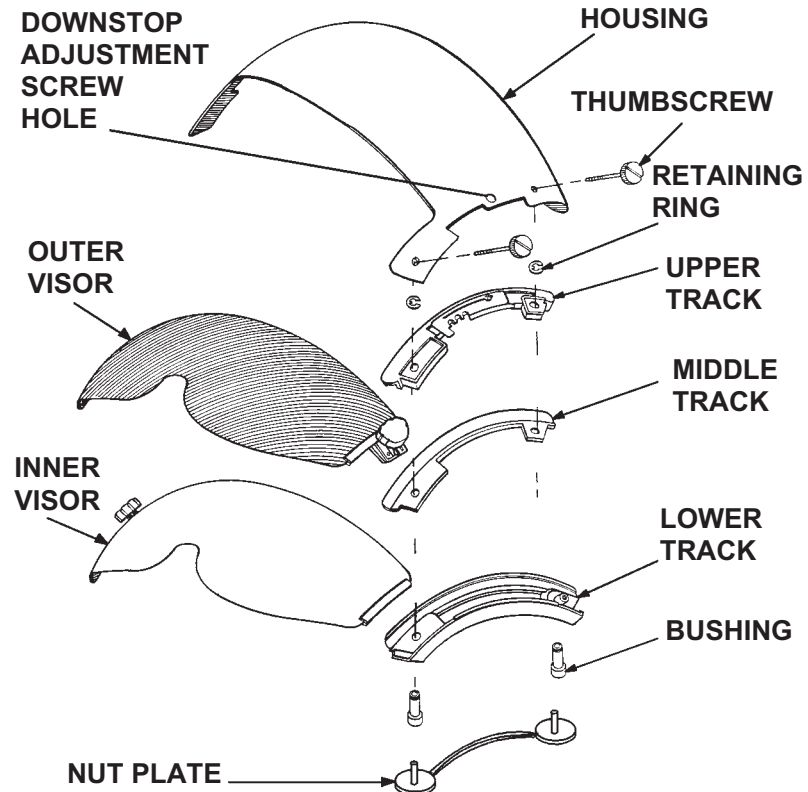

Figure 4-20. Dual Visor Assembly
Screws, retaining rings, tracks, and bushings are shown on one side only in Figure 4-20. A similar configuration exists for the other side.
1. Referring to Figure 4-20, remove four thumbscrews that attach visor assembly to helmet.
1. Referring to Figure 4-20, insert bushings upward through lower track.